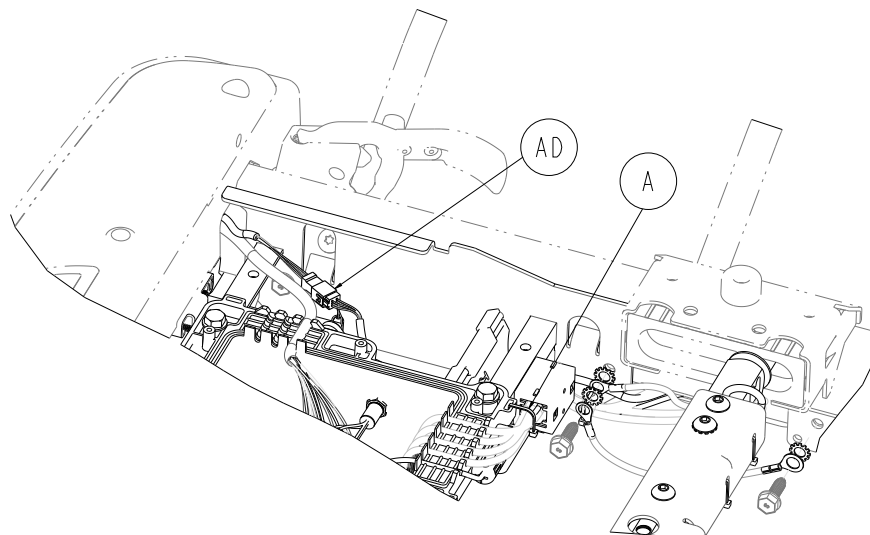

Figure 45 – Display to nurse call extension cable assembly
8. Using a pick, unplug the display to nurse call extension cable assembly (AD) from the bed exit to display cable assembly (Figure 45).
24. Route the display to nurse call extension cable assembly (AD) and the load cell cables toward the bed exit to display cable assembly on the foot end (Figure 45). Plug the display to nurse call extension cable assembly into the bed exit to display cable assembly.
27. Using a supplied 8" cable tie (3000-300-113) (A), secure the display to nurse call extension cable assembly to the litter control box cable tie location (Figure 45). Using wire cutters, cut and discard the excess cable tie.